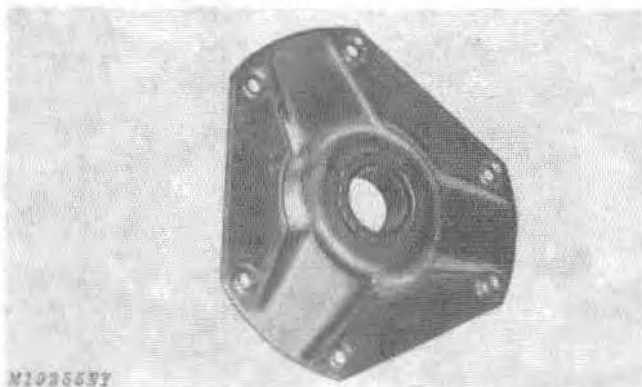

Fig. 5-Cover Plate and Bushing
1. If bushing in cover plate, Fig. 5, is worn or damaged, replace cover plate. Bushing is not serviceable.